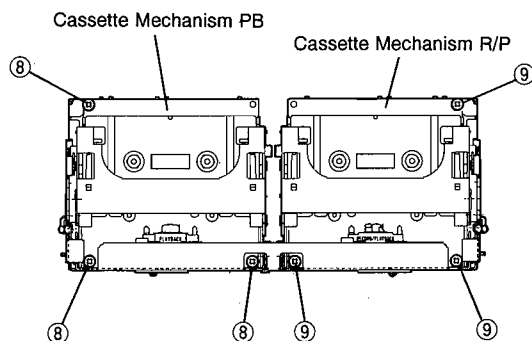

Fig. 3
- Remove 3 screws (8) and then remove the Cassette Mechanism PB in Fig. 3.
- Remove 3 screws (9) and then remove the Cassette Mechanism R/P in Fig. 3.